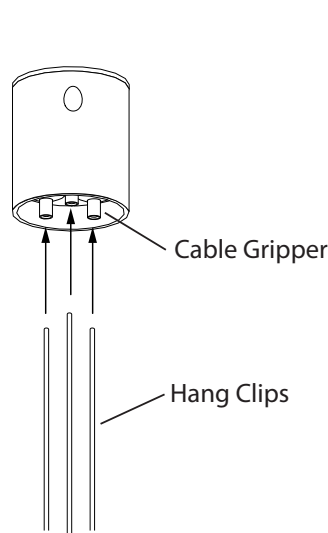

Fig. 2b
3. Insert the Hang Clips (Fig. 2b) into the 3 Cable Grippers on each of the Triple Ceiling Hangers until approx. 1" of cable has exited the Hanger Head. NOTE: The final height of the configuration will be set by adjusting each Hang Clip while installing Sections 1-6 on pages 10-15.